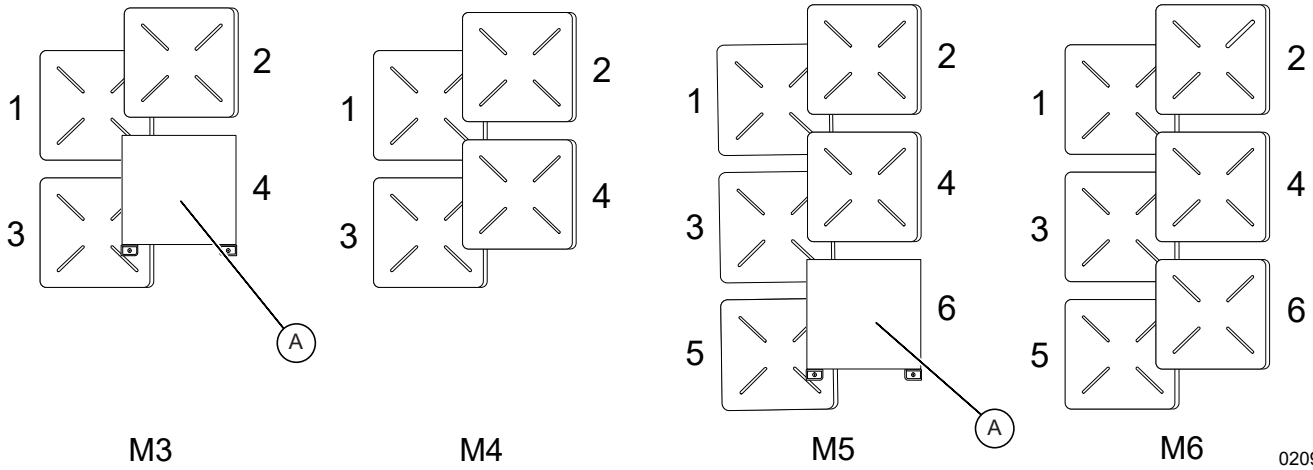

Figure 4-11. Battery Modules & Spacer Order of Installation
- See Figure 4-11A module spacer (A) is required on odd number battery module configurations (M3 and M5).
- See Figure 4-11 for the installation order of battery module for the number of PWRcell modules.